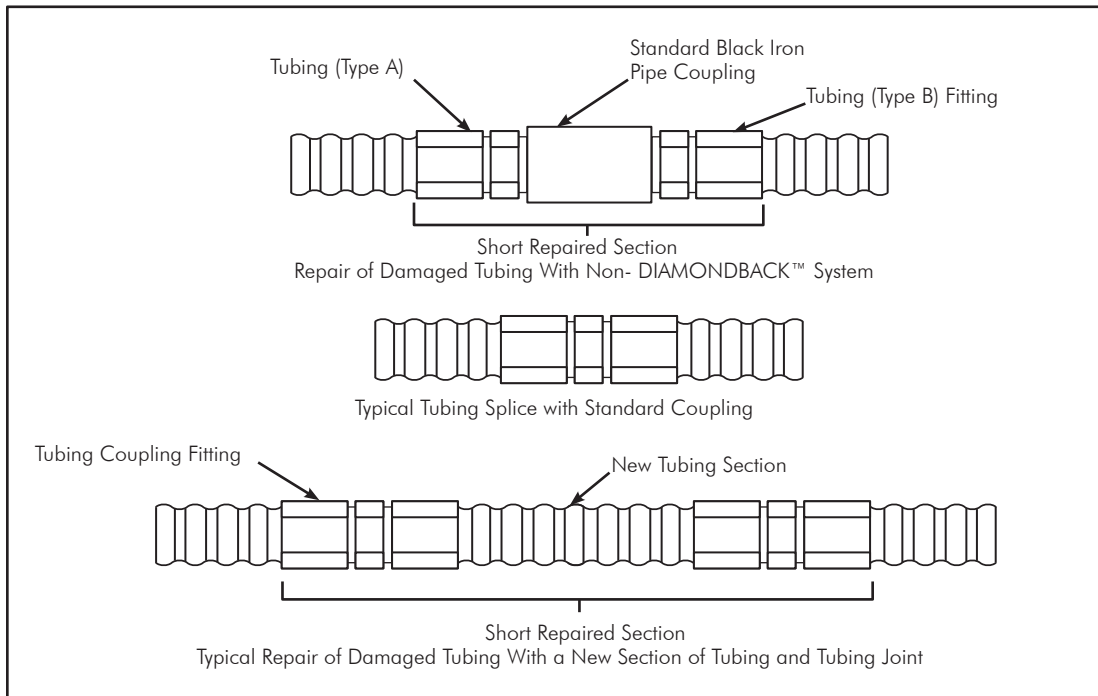

FIG. 5-1 Repair of Existing Tubing Runs
Damaged tubing runs shall be repaired in accordance with this design guide and installation instruction manual. The repair can result in a line splice (as shown in **FIG. 5-1**) which may be located in a concealed location.
1. Remove the section of tubing which is damaged and reconnect the new ends with a single mechanical coupling. Use this repair method if the damaged section is small and if there is enough slack tubing in the run to make-up for the removed damaged length. (**FIG. 5-1**)